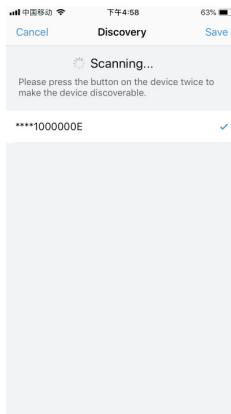

Figure 6
5. Once the device/device(s) are discovered, tick the device/device(s) and tap “Save” button, the device/device(s) will be added successfully. (as shown in **Figure 6**)